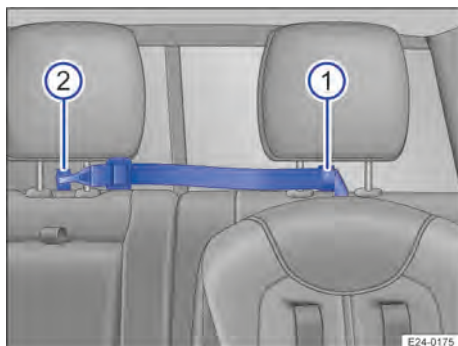

Fig. 45 Attaching the top tether strap (illustration).
2. Feed the top tether through the top tether loop → Fig. 45 ① under the head restraint.
4. Attach the top tether in the top tether loop → Fig. 45 ② under the middle head restraint.